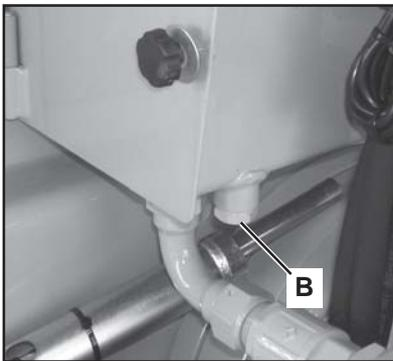

fig.3
- remove the fill plug (A, Fig. 2) and drain plug (B, Fig. 3) and let the oil drain completely;
- fit the plug B back (Fig. 3);